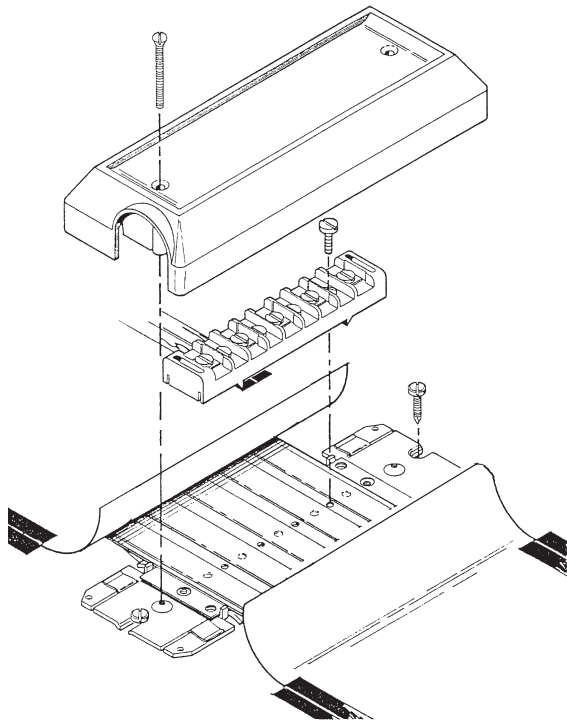

Figure 9
4. REMOVING POWER WHIP (Figure 9)